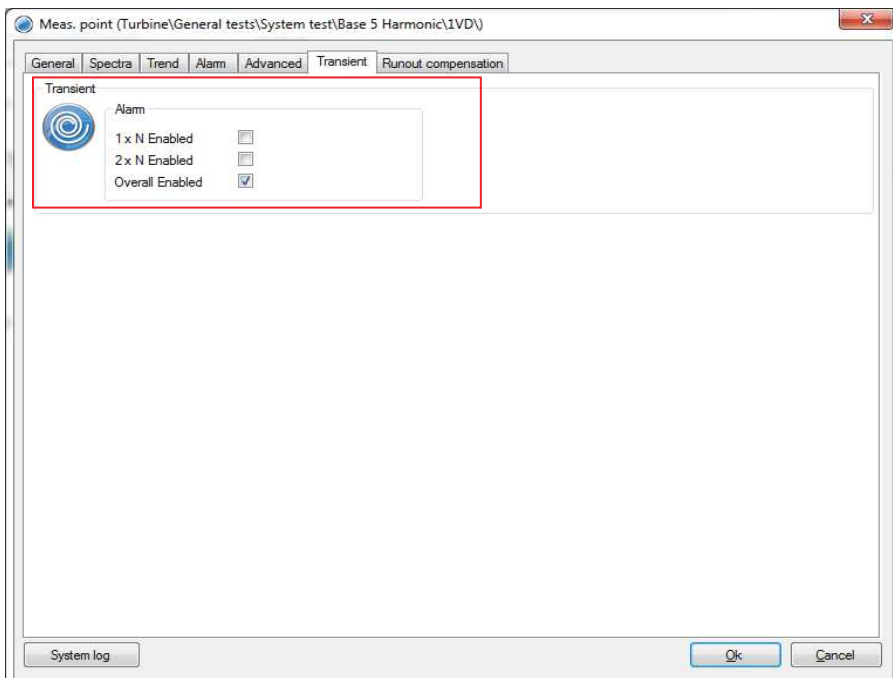

Fig. 3. Transient alarm configuration for harmonic points.
- During a transient, it is possible to enable or disable the alarm calculation for the harmonic components (1X, 2X and overall) of a harmonic point (→ fig. 3). If alarms are needed, it is recommended to enable the overall alarm for maximum performance.